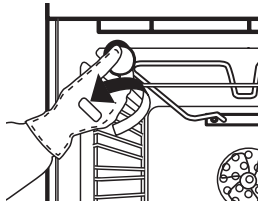

Fig. 5
- 2. Unscrew the lamp cover (Fig. 5), replace